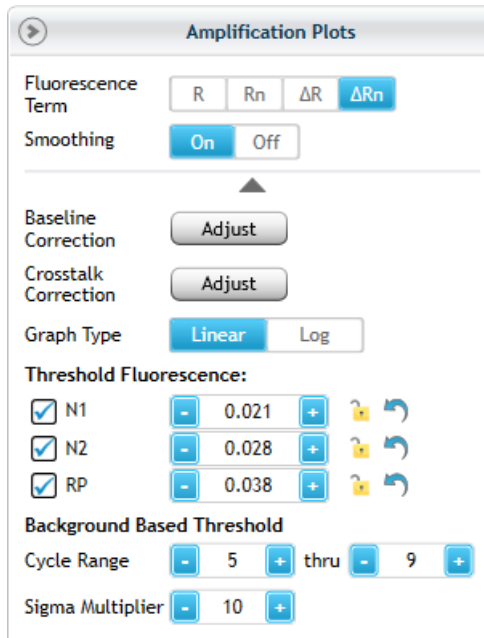

Figure 20 Default settings for Amplification Plots in the Aria software (Threshold Fluorescence values will vary between experiments)
- 5 Make sure that the screen is displaying the Amplification Plots graph and that the default analysis parameters match those shown in **Figure 20**.
If you do not see the full panel of analysis parameters shown in **Figure 20**, then click the downward arrowhead just under the **Smoothing** setting to expand the panel.
Note that the default Threshold Fluorescence values in your experiment will likely differ from those shown in **Figure 20**. The software calculates the default values based on the level of fluorescence noise in the background cycle range. Consequently, the default values will vary between experiments.